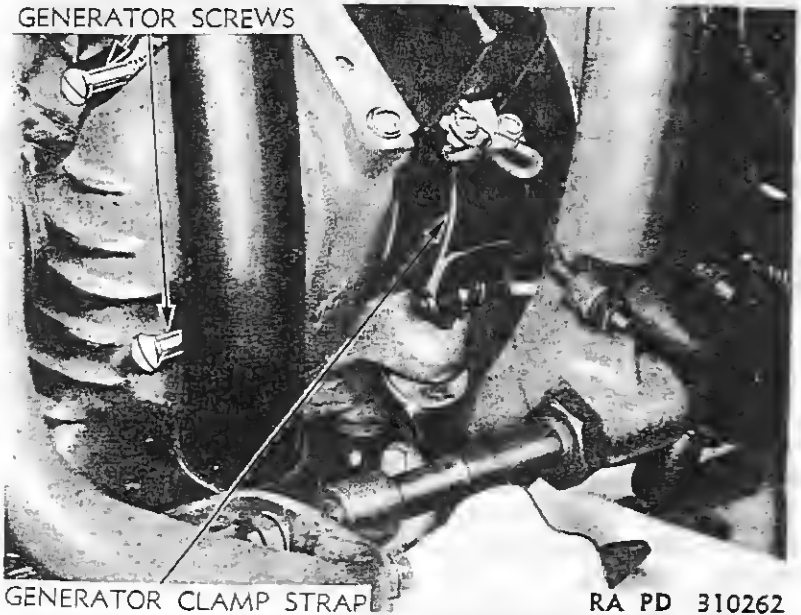

Figure 59—Removing Generator Strop Nut
(3) Remove strap nut, lock washer, and curved washer from end of strap that clamps generator in its cradle on engine crankcase (fig. 59).
(4) Lift strap high enough to permit raising generator so that oil slinger (on end of generator gear) will clear adjacent gear, and allow generator to be removed from engine. Be sure to observe and